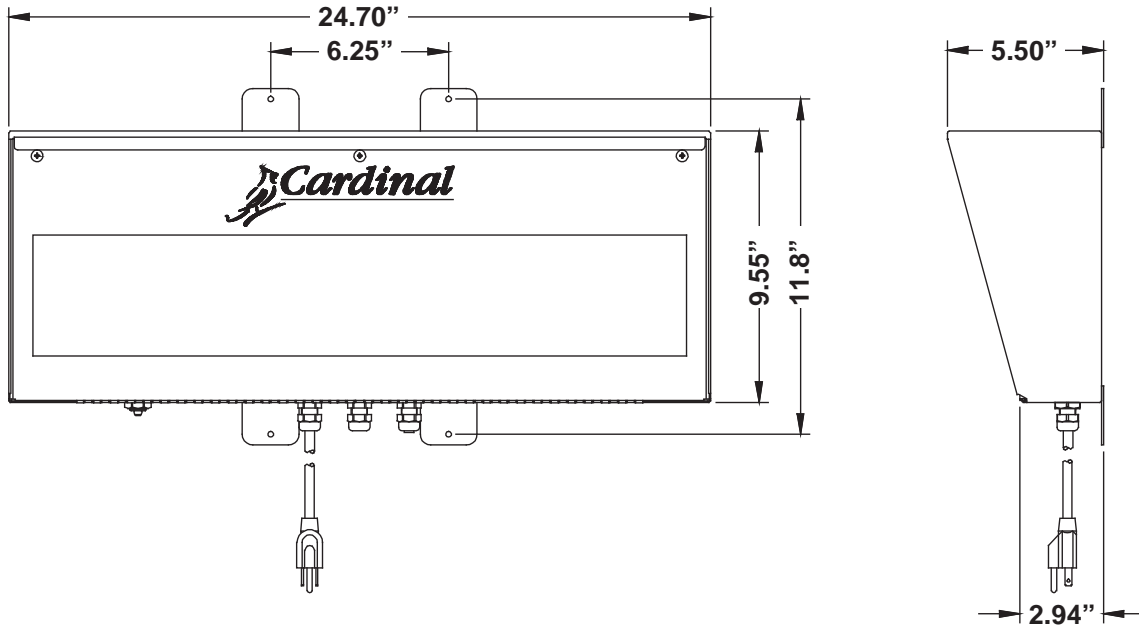

Figure No. 1
The SB250 display is normally mounted on a wall or some other vertical surface. The display is attached to the wall with four (4) bolts. Refer to Figure No. 1 for the mounting hole layout.